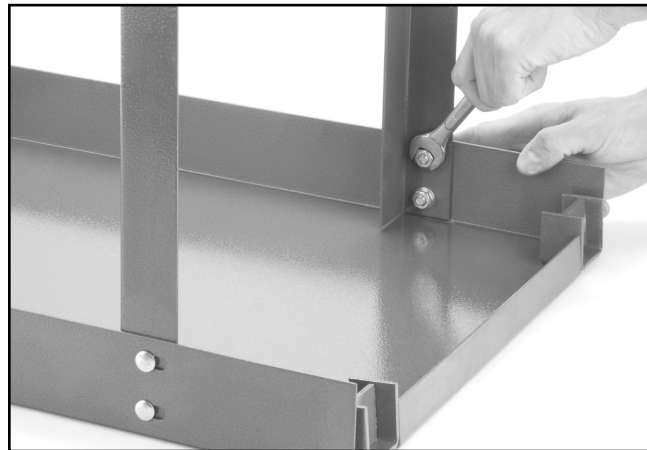

Figure 4. Attaching cross bars to stand side.
1. Lay one stand side on the ground and attach the cross bars with the M8 carriage bolts, $\frac{3}{8}$ " washers, and M8 hex nuts as shown in **Figure 4**. DO NOT fully tighten the nuts and bolts at this time.